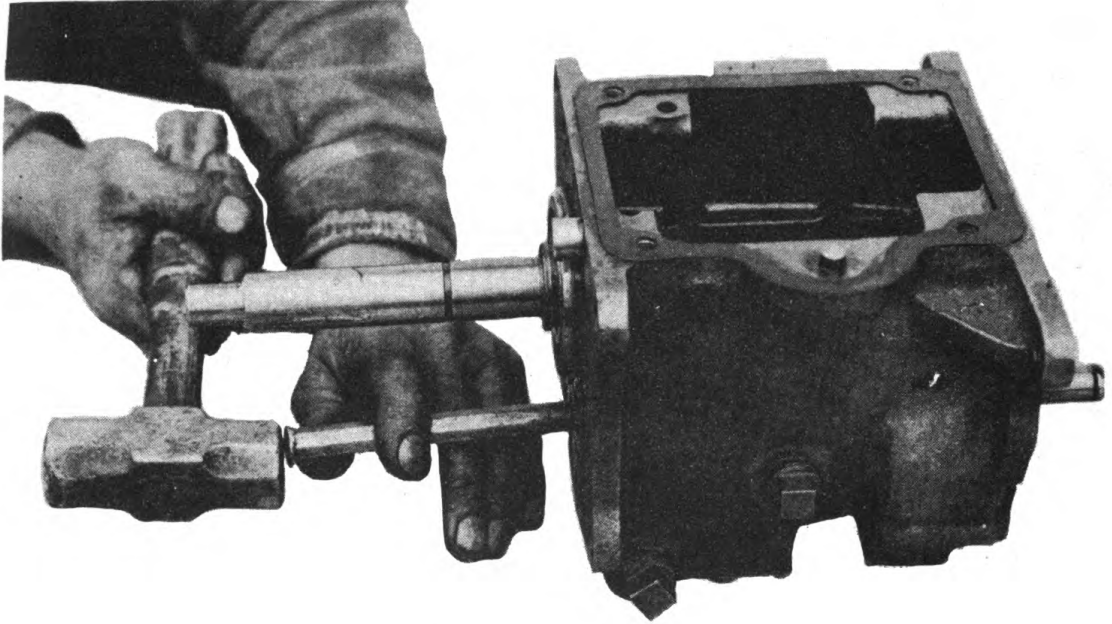

Fig. 18
14. With a drift, drive out countershaft. (See Fig. 18 Page 29)